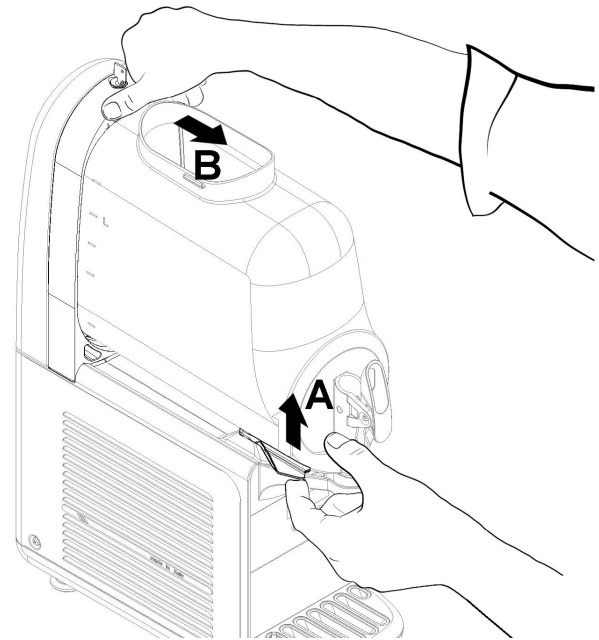
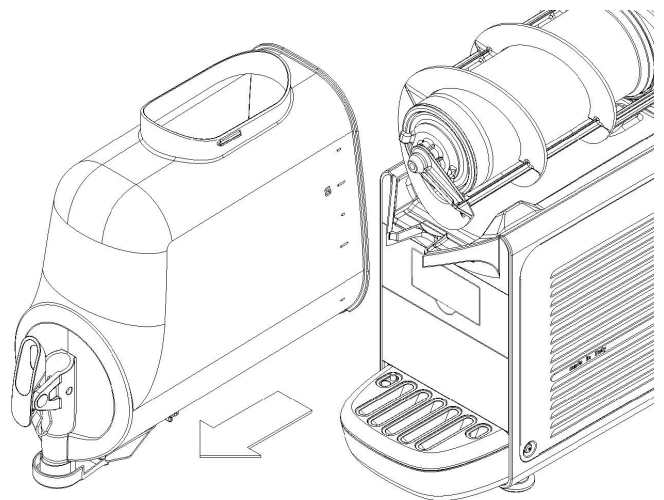

figure 8
figure 9
- 2 To remove the container, push the lever upwards (see figure 8) and then remove the container itself (see figure 9).